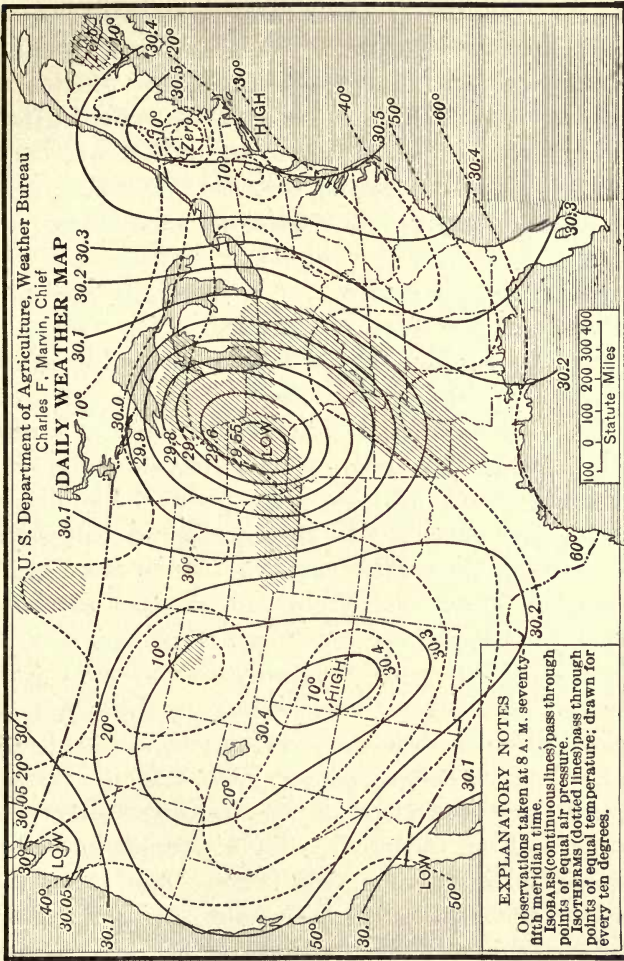

Fig. 132. — Weather Map Showing Isobars (continuous black lines).
**Isobars.** — In order to forecast weather conditions, it is necessary to compare barometric readings from many different parts of the country. Since barometric readings vary with the elevation and the temperature, in order to make intelligent comparisons it is necessary to make corrections for these differences in elevation and temperature. By the aid of prepared tables this is readily done, all readings being reduced to the corresponding reading at the elevation of sea level and the temperature of the freezing point of water. After the corrections are made lines are drawn connecting points having equal atmospheric pressure. These lines are called isobars. A map showing lines of equal pressure is called an isobaric map. On the daily weather map isobars (continuous black lines) are drawn representing variations in pressure of one tenth of an inch. See Figure 132.